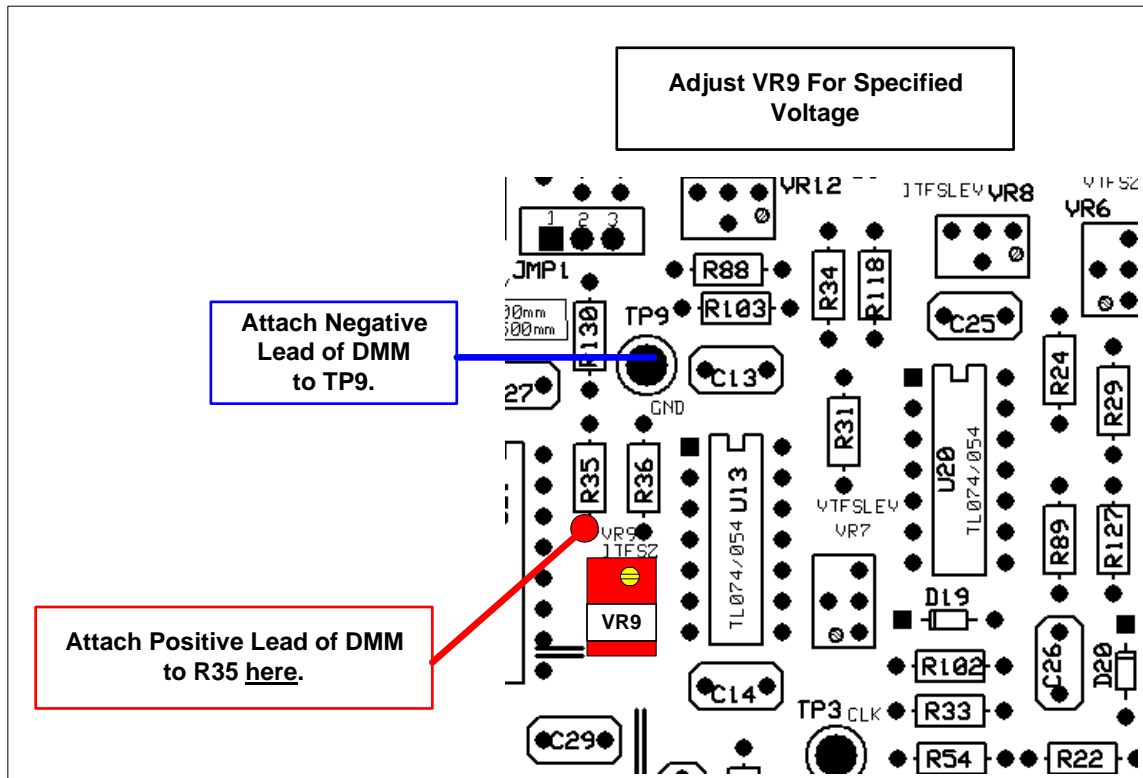

Figure 9-13: Initial Current TFS Zero Voltage Calibration
3. Connect the positive lead of the DMM to the end of R35 indicated in **Figure 9-13**.